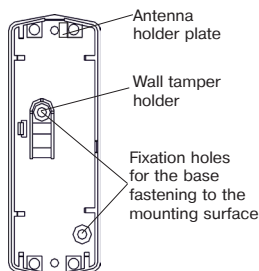

Figure 2 – The Base
9.1 Choose the place of installation. Mark the holes layout, for the purpose the base of the Detector can be used (see Figure 2). Fasten the base by screws. To ensure wall tampering control, fasten the screw in the wall tamper holder.
ATTENTION! Antenna should be installed vertically on the holder (see Figure 2). Otherwise radio communication range will be essentially reduced.